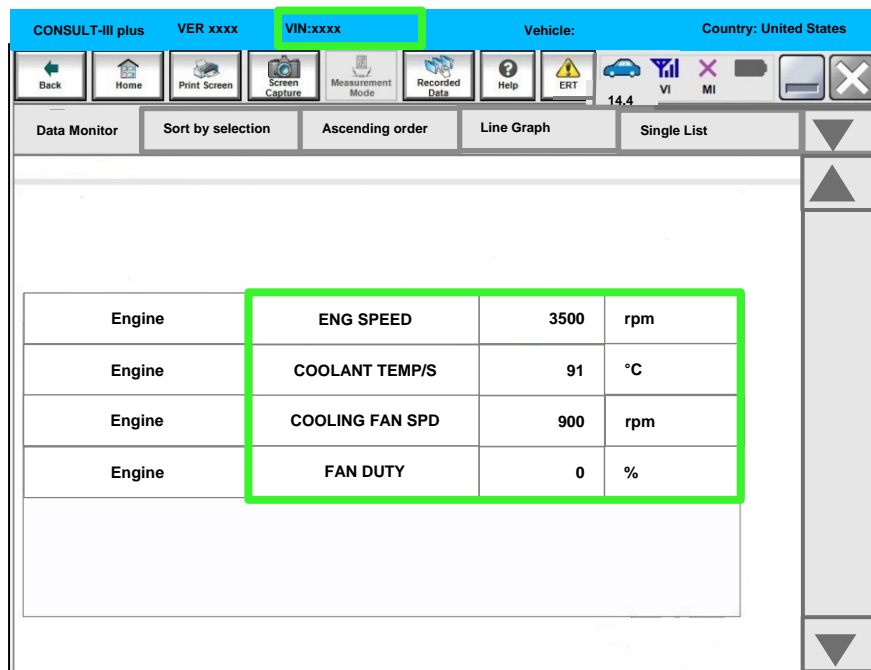

Figure 1
11. Perform step 10 a total of five (5) times while observing the **COOLING FAN SPEED**.
12. Obtain a screen shot, photo or video of **Data Monitor** (Figure 1) showing the following: